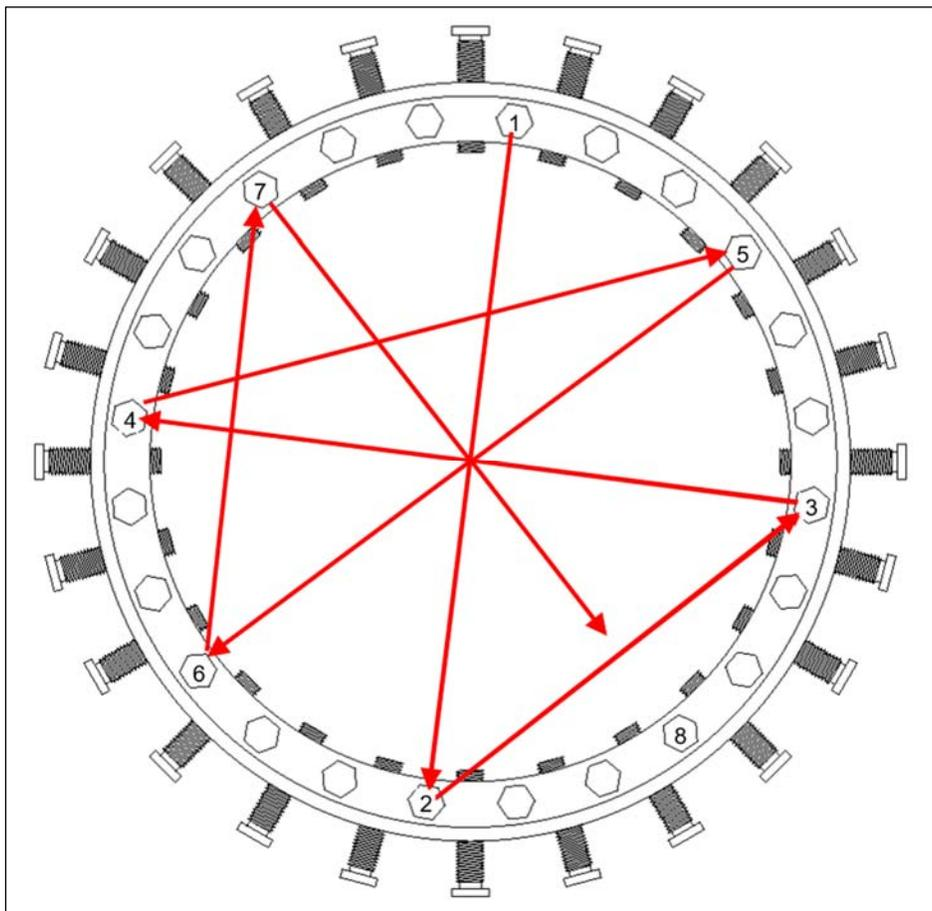
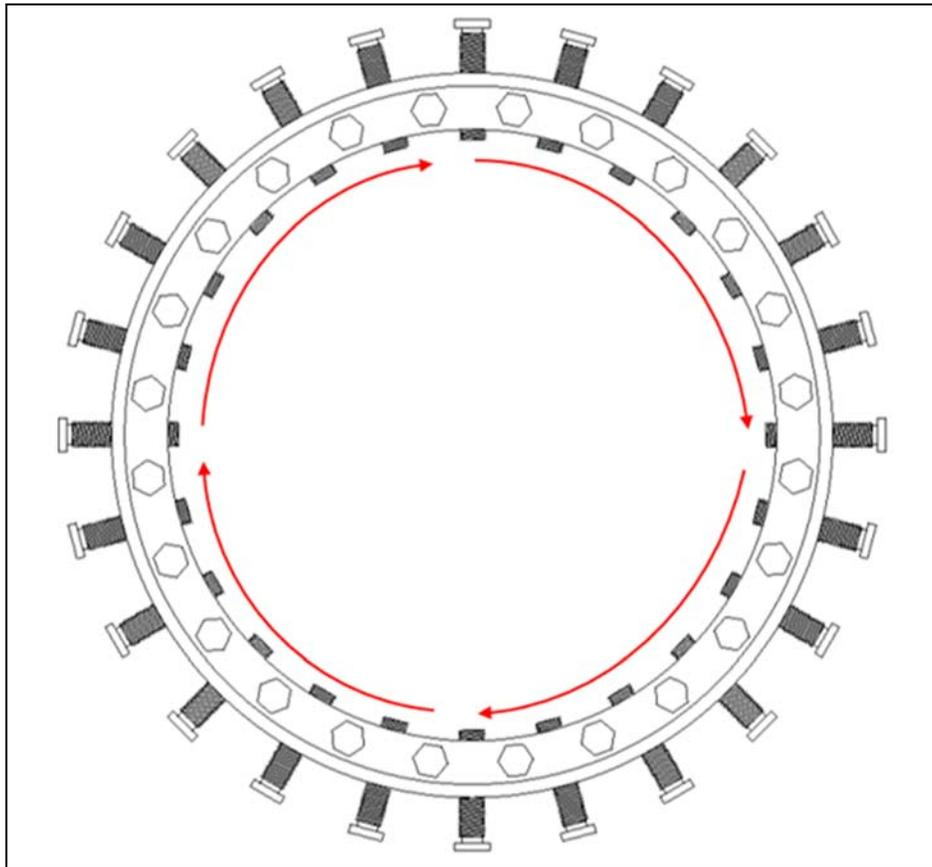

Figure 7
Figure 8
8. Torque the thrust screws one at a time (torque values in Table 5) in a repeated crisscrossed star sequence that matches Figure 7. The first time through the sequence, tighten at 25% of the minimum torque. The second time through, at 50% of the minimum torque. The third time through, at 100% of the minimum torque. Then, follow a circular tightening sequence, that matches Figure 8, at 100% torque, until the thrust screws are unable to continue spinning (see Table 4 for torque percentage for each sequence).